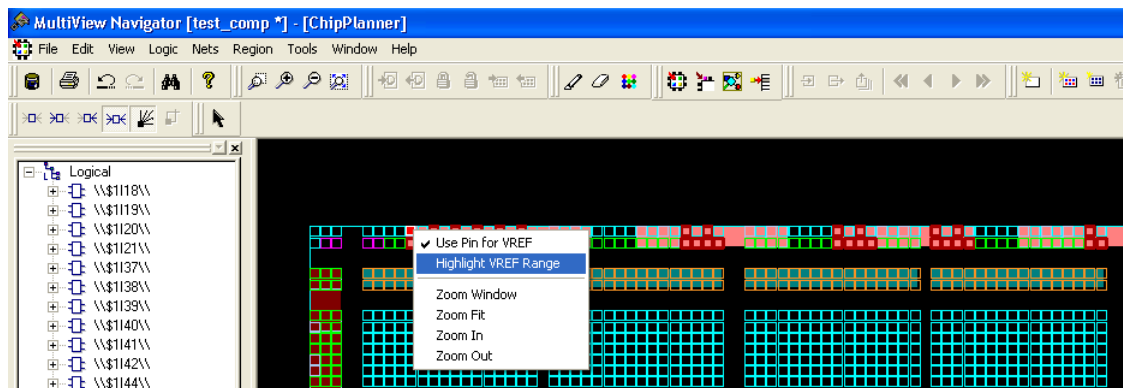

Figure 13-15 • V_{REF} Range
- Right-click and then choose **Highlight VREF range**. All the pins covered by that V_{REF} pin will be highlighted (Figure 13-15).